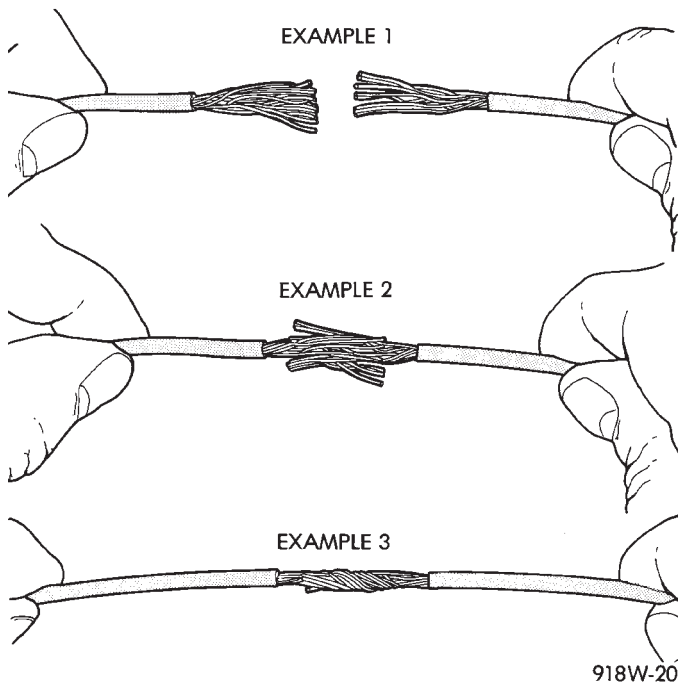

Fig. 13 Wire Repair
- (1) Disconnect battery negative cable
- (2) Remove 1 inch of insulation from each end of the wire.
- (3) Place a piece of heat shrink tubing over one side of the wire. Make sure the tubing will be long enough to cover and seal the entire repair area.
- (4) Spread the strands of the wire apart on each part of the exposed wire (example 1). (Fig. 13)
- (5) Push the two ends of wire together until the strands of wire are close to the insulation (example 2) (Fig. 13)
- (6) Twist the wires together (example 3) (Fig. 13)
- (7) Solder the connection together using rosin core type solder only. **Do not use acid core solder.**
- (8) Center the heat shrink tubing over the joint, and heat using a heat gun. Heat the joint until the tubing is tightly sealed and sealant comes out of both ends of the tubing.
- (9) Secure the wire to the existing ones to prevent chafing or damage to the insulation
- (10) Connect battery and test all affected systems.